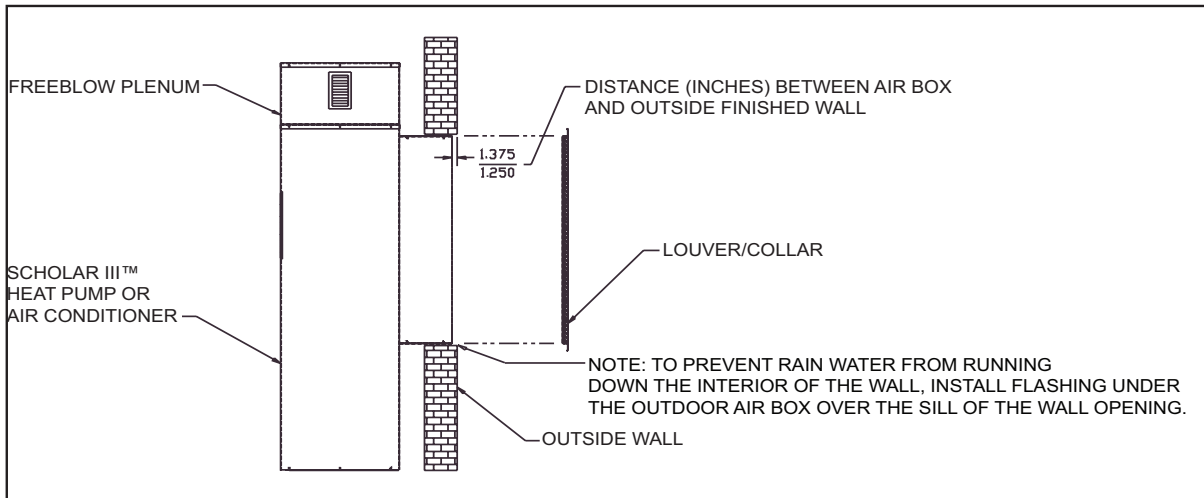

Figure 5. Dimension Between Scholar 2.0 Heat Pump or Air Conditioner Air Box and Finished Outside Wall for Outdoor Louver/Collar Assembly Installation
- B. Be sure that the power to the line voltage wiring is off prior to hooking-up the wiring within the Scholar 2.0 cabinet. Remove the lower front panel for access to the disconnect. Figure 5 illustrates the disconnect location with the lower front panel removed. Turn the disconnect to “OFF” position.
1. For Scholar 2.0 units with a remote (wall mounted) thermostat, route the low voltage wiring from the point of entry into the cabinet, upward through the raceway adjacent to the disconnect shown in Figure 5.